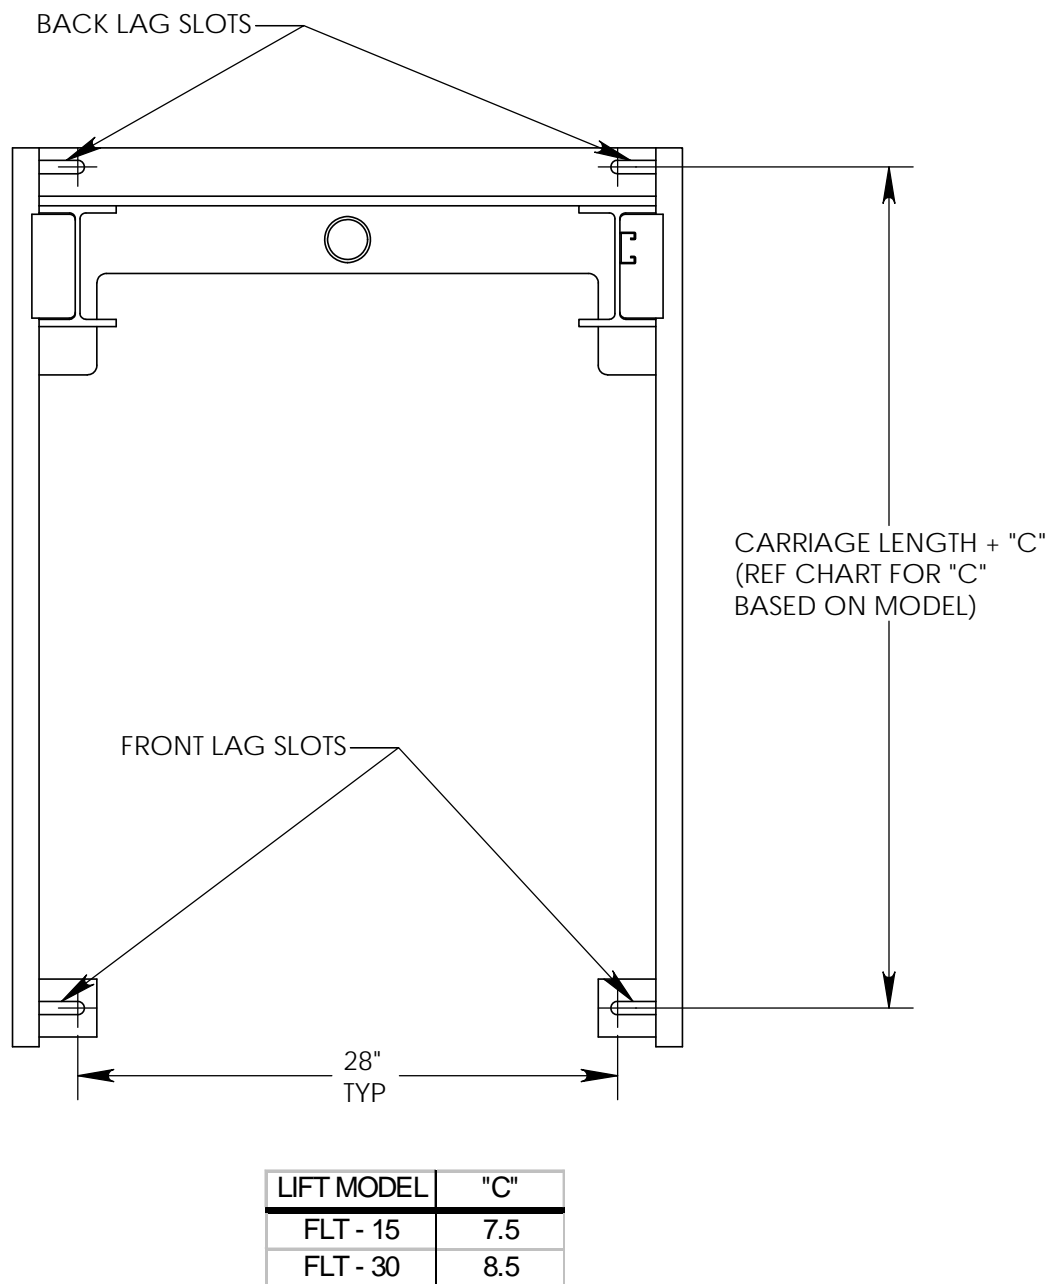

Figure 18 Lag-Down Location of Floor Channels (Top View)
8. Complete the process of shimming the base of the lift. Do not spot shim the base! Begin by shimming the two lag holes at the back of the unit, and once the platform has been raised finish shimming and anchoring the two base frame tabs under the platform (Refer to **Figure 18** for anchor location detail).